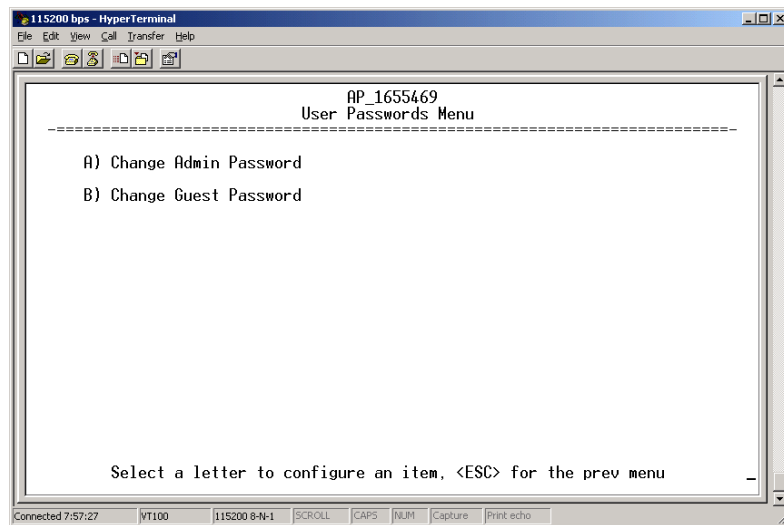

Figure 3-54. User Passwords Menu
- ☞ **User Passwords** □ Allows changing of Administrative and Guest passwords. When selected, a new screen appears (Figure 3-54 on Page 87).